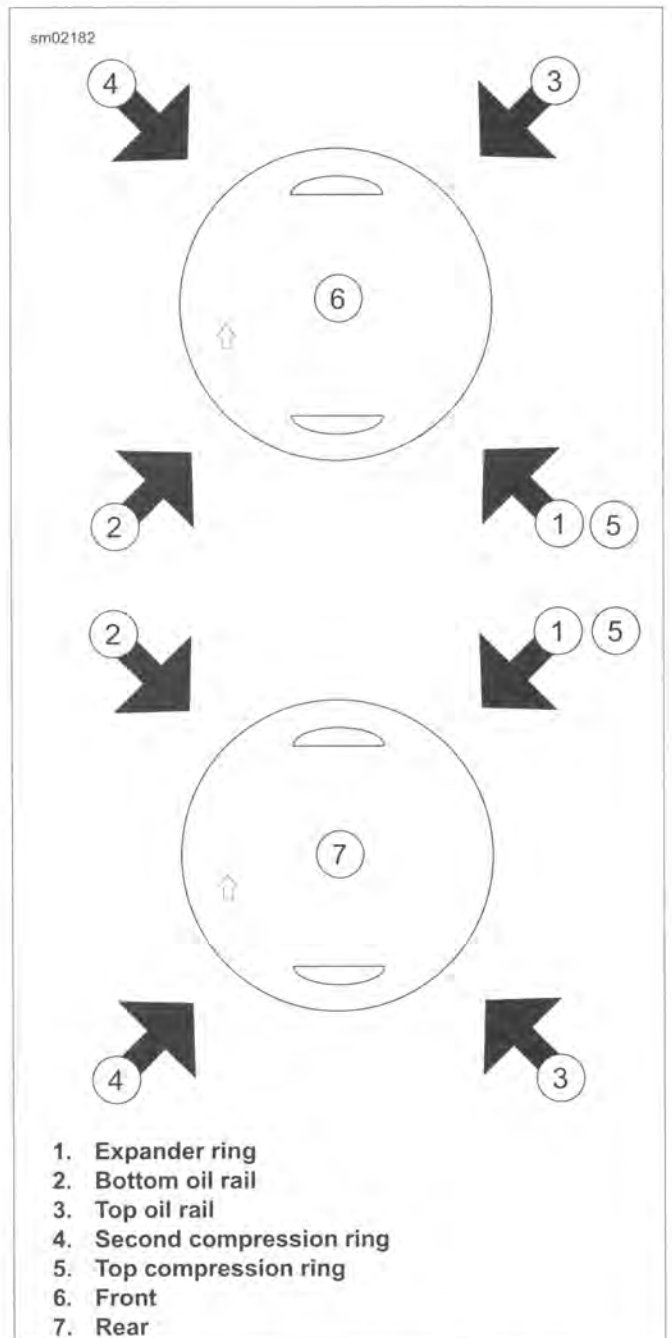

Figure 3-64. Piston Ring Gap Alignment
- See Figure 3-64. Verify the ring gaps are still properly staggered.